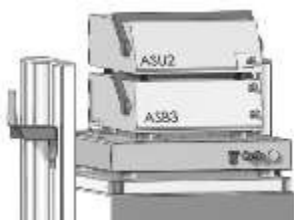

FIGURE 2/FIGURA 2
5. Secure each tank with strap on top bracket as shown in FIGURE 2.